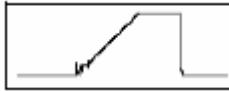

Figure 4.
3. If a negative waveform appears, open the probe jaws and clamp the probe in opposite direction. The ignition coil waveform should have a gradual rise or ramp as current begins to flow (refer to Figure 4).